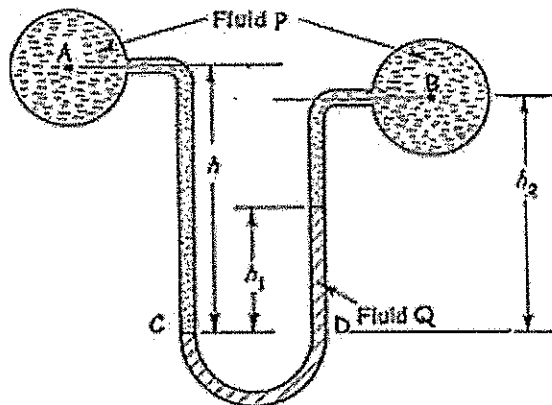

Figure 1/ Rajah 1
- a) A U tube manometer in **Figure 1** measures the pressure difference between the two points which are point A and B in a liquid. The U tube contains mercury and water. Calculate the pressure difference if $h = 1.5$ m, $h_2 = 0.75$ m, $h_1 = 0.5$ m. The liquid at A and B is water. Given the specific gravity of mercury is 13.6.